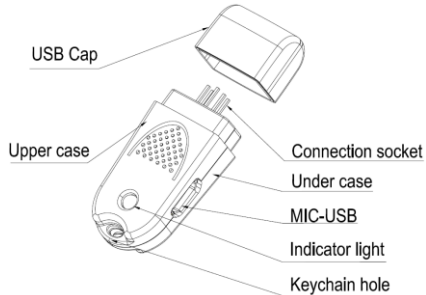

Figure B-1 Uploading and downloading module structure diagram
Uploading and downloading module structure diagram shown in figure B-1:
- Step 1: Installing the upload and download module in the inverter control board UP / DOWNLOAD location (As shown in figure B-1) .